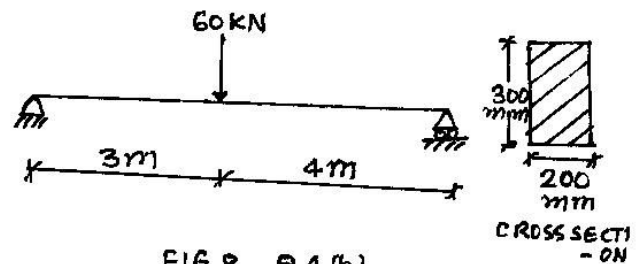

FIG 8 Q 4 (b)
- (b) Find out maximum bending stresses at top and bottom of beam as shown in **fig.8**. **05**